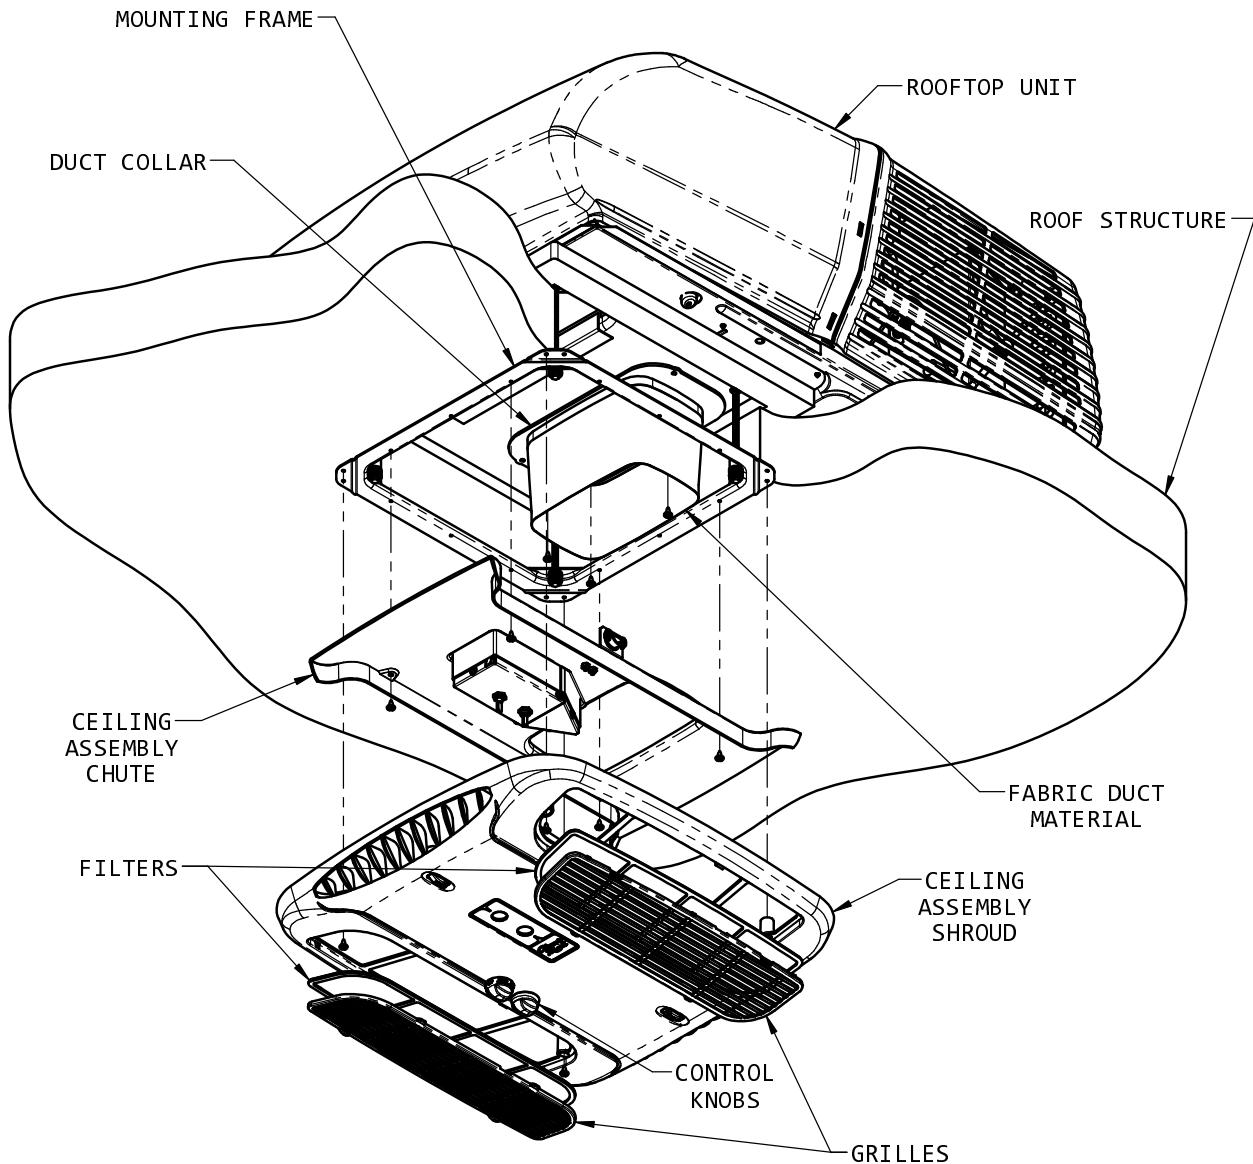

FIGURE 11
- B. Fasten the duct collar to the air conditioner basepan with 3 provided screws (See Figure 11).
- H. Raise the ceiling assembly chute to the unit mounting frame and secure the chute with 4 provided screws (See Figure 11).
- L. Raise the ceiling shroud and while insuring it meshes with the chute, secure to mounting frame with 4 provided screws (See Figure 11).